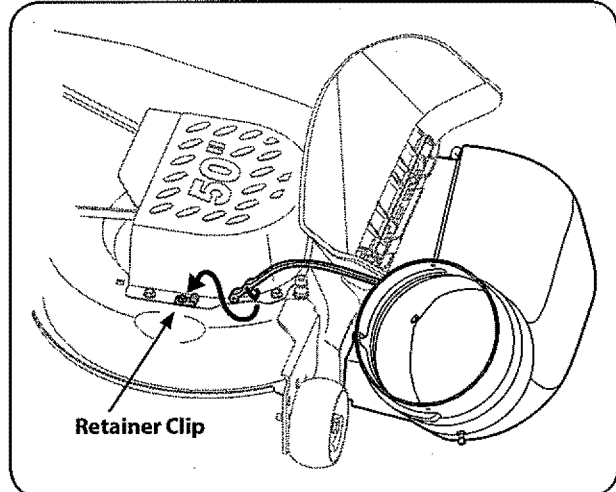

Figure 4-21
3. Raise the chute deflector (A in Figure 4-21) on the deck and hold it while you position the discharge chute over the chute opening.
4. Insert the hinge pin of the discharge chute into the tube on the chute stop bracket. See B in Figure 4-21.
5. Rotate the chute around the deck so that its front edge fits snugly into the deck opening. Lower the chute deflector slowly (C in Figure 4-21).
6. Attach the retainer strap on the discharge chute to the retainer clip on the deck. Refer to Figure 4-21.
IMPORTANT: If the retainer clip is not present on the mowing deck, on some units, one has been included with hardware pack 689-00329. Attach the retainer hook (96606) with a self-tapping screw factory installed in the deck in the position noted in Figure 4-21. Remove the screw in the deck and reinstall with the retainer hook.